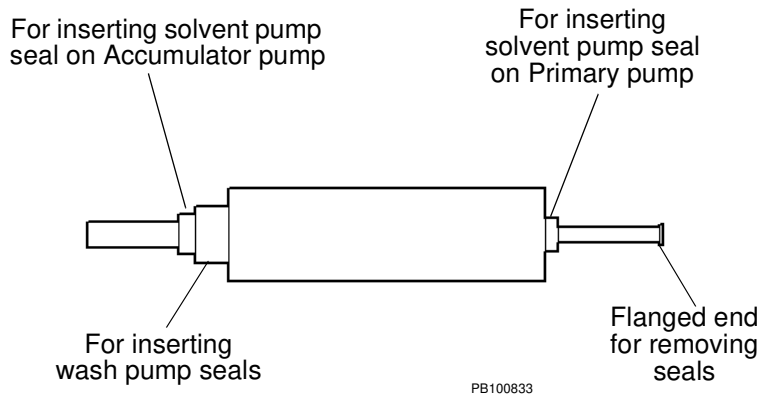
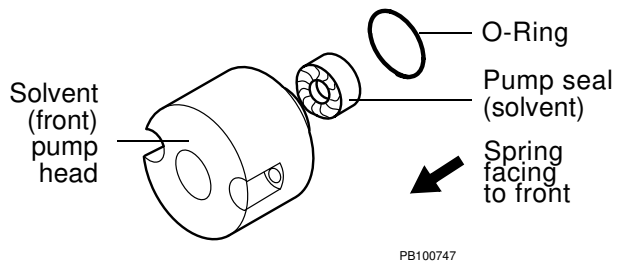
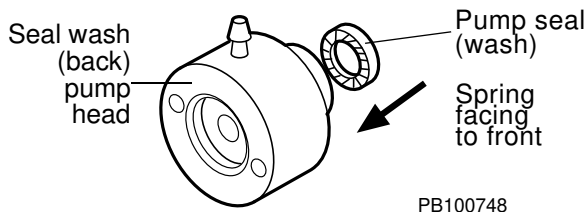

Figure 9-12 Pump Seal Removal and Insertion Tool
Figure 9-13 Replacing Solvent Pump Seal
Figure 9-14 Replacing Wash Pump Seal
1. Use the flanged end of the removal tool (Figure 9-12) (included in THE Pump Head Seal Kit) to remove the solvent pump seal from the solvent (front) pump head (Figure 9-13).
2. Use the blunt end of the removal/insertion tool (Figure 9-12) to insert the new solvent pump seal with the spring in the seal facing toward the front of the pump head (Figure 9-13).
1. Use the flanged end of the removal/insertion tool (Figure 9-12) (in the Pump Head Seal Kit) to remove the wash pump seal from the seal wash (back) pump head (Figure 9-14).
2. Use the blunt end of the removal/insertion tool to insert the new wash pump seal with the spring in the seal facing toward the front of the pump head (Figure 9-14).
1. Place the solvent pump head (Figure 9-13) under running water and wash off any debris or residue.